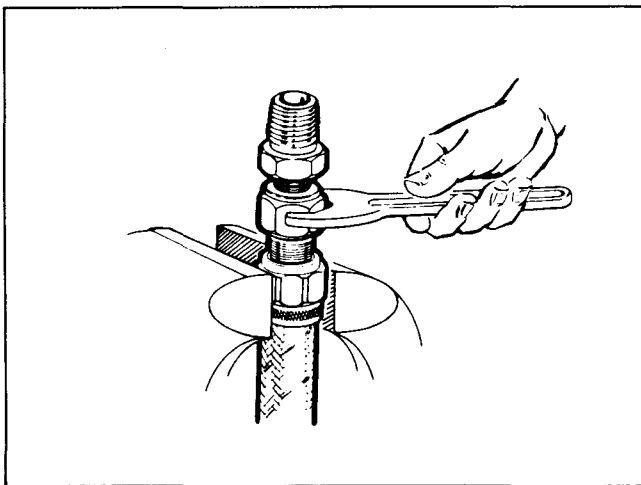

Fig. 7-7, (N10739). Assembling hose nipple and socket
7. Hand assembly tools are available for assembling nipple assemblies into hose and socket assembly. ST-1160 Assembly Tool Kit, includes an assembly mandrel for each hose Size 4, 5, 6, 8, 10, 12 and 16. In an emergency a brass fitting can be tightened in the swivel nut enough to enable turning the flare seat (nipple) into the hose and socket. Fig. 7-7.